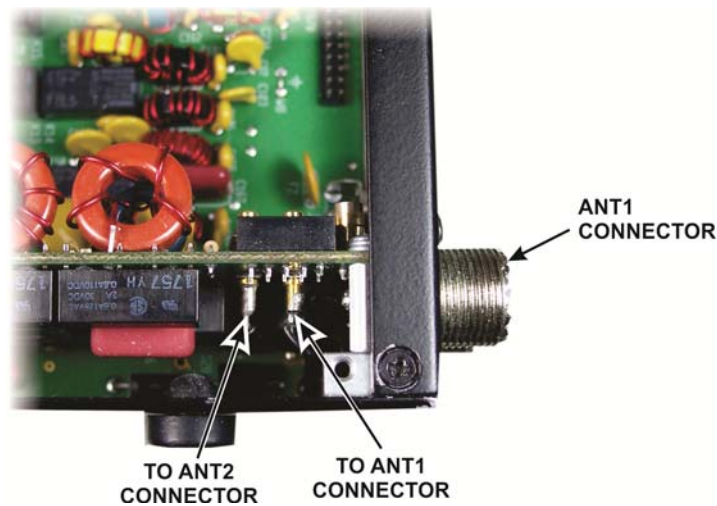

Figure 11. Unplugging the ANT Connectors.
- At the opposite end of the rear panel are one or two SO-239 “UHF” antenna connectors, depending upon whether you have the KAT3 ATU installed. Directly behind the ANT connectors are one or two pin connectors to the pc board (see Figure 11). Use your needle nose pliers to unplug the connector(s).
Reconnect the ANT connector(s) to the KAT3 or KANT3 (Figure 11, pg 7). If you have the KAT3 ATU, be sure you connect ANT1 to the connector closest to the rear panel. Use a DMM if needed to confirm you have the connectors in the correct locations.